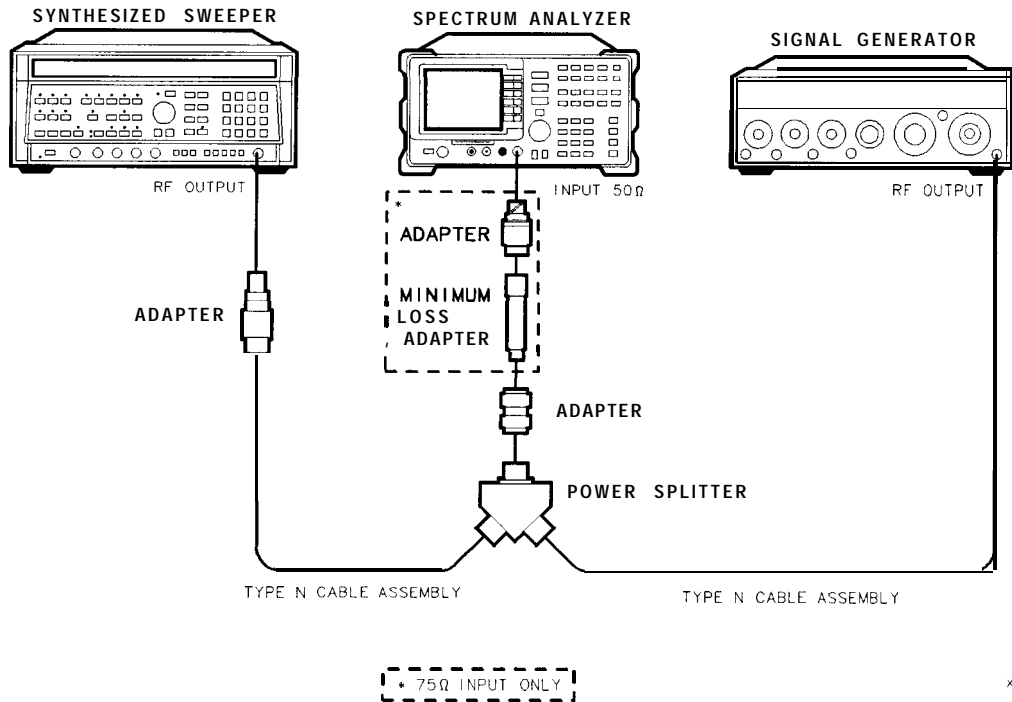

Figure 2-9. 1800 MHz Frequency Span Readout Accuracy Test Setup
- Connect the equipment as shown in Figure 2-9. Note that the power splitter is used as a combiner.